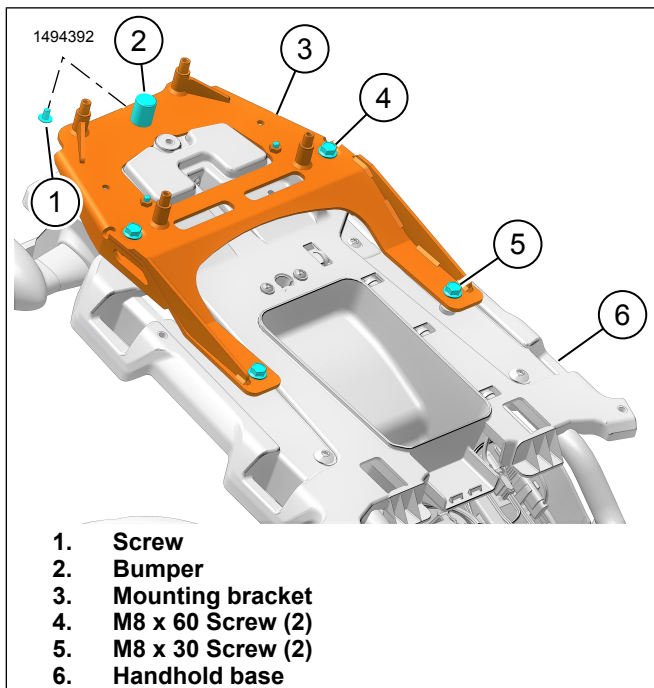

Figure 8. Mounting Bracket
5. See Figure 8. Install bumper (2) and screw (1) to mounting bracket (3).
a. Tighten screw (1).
7. See Figure 8. Install mounting bracket (3).
c. See Figure 8. Tighten screws (4, 5).